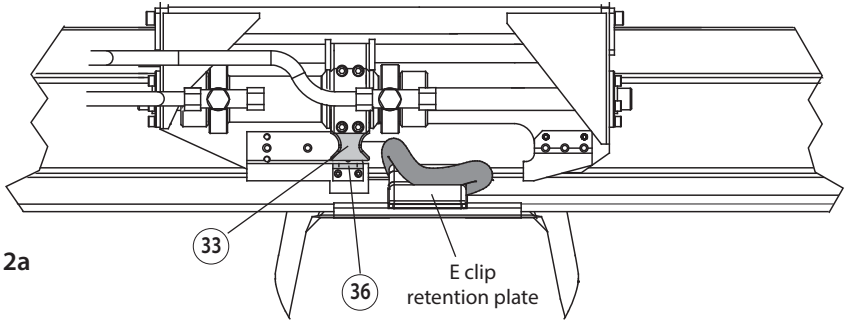

FIG. 12a
- Make sure the teeth (33) of the clamps are moved fully forwarded by pulling the control lever to the right in "INSERT" position.
- Completely lower the machine, **positioning the yellow locator plates (36) near the E clip retention plates** (see Fig. 12a).